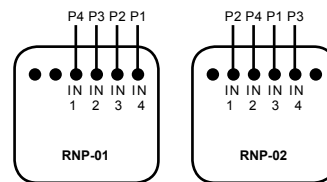

Fig. 1
1. Fig. 1 viser knapperne numre for senderne RNP-01/RNP-02